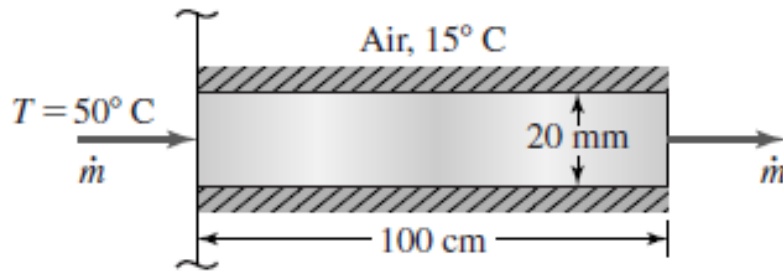

Figure 4
8. Figure 4 shows a thin-walled tube that is part of an oil cooler. Engine oil enters the tube at the left end at temperature 50°C with a flow rate of 0.2 kg/min . The tube is surrounded by air flowing at a constant temperature of 15°C . The thermal properties of the oil are as follows: Thermal conductivity: $k_x = 0.156 \text{ W/(m}^\circ\text{C)}$, Specific heat: $c = 0.523 \text{ W-hr/(kg}^\circ\text{C)}$. The convection coefficient between the thin wall and the flowing air is $h = 300 \text{ W/(m}^2\text{C)}$. The tube wall thickness is such that conduction effects in the wall are to be neglected; that is, the wall temperature is constant through its thickness and the same as the temperature of the oil in contact with the wall at any position along the length of the tube. Using four two-node finite elements, obtain an approximate solution for the temperature distribution along the length of the tube and determine the heat removal rate via convection. [10]